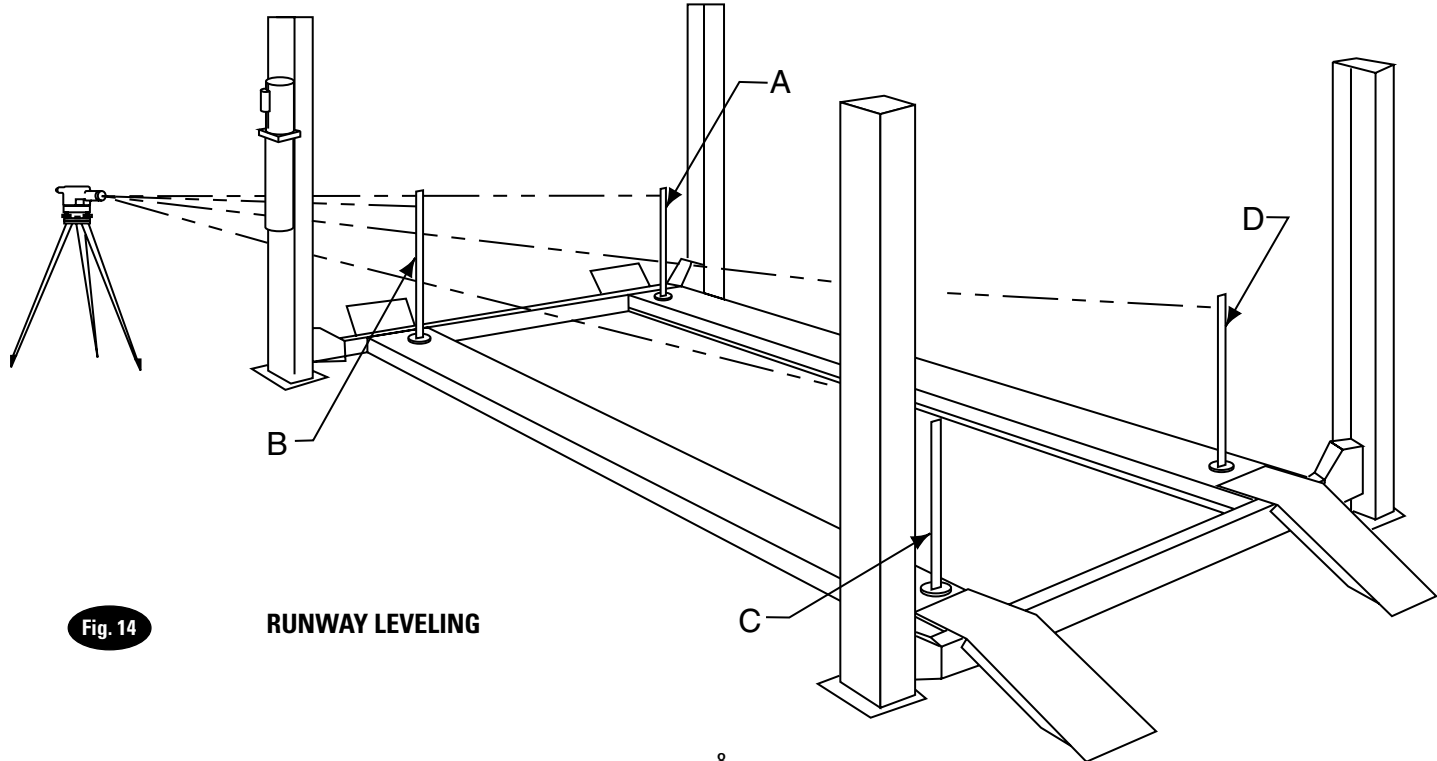

Fig. 14 RUNWAY LEVELING
- C. First place the Level target at the highest corner of the lift. Place it on the runway center line within 6" of yoke tube, whichever one is located over highest point. This will be referred to as target "A" position. Beginning with target "A" position, Fig. 14, sight the Level to the target and mark the number or the graduation on the inch scale of the target that aligns to the crosshairs of the Level, Fig. 15.
- D. Next, move the target and place it on the runway at point "B", Fig. 14. Rotate the Level and focus on the target scale. Adjust the column at "B" using shims under base plate, Fig. 13, until the cross-hairs of Level align to reference mark on the target scale. Repeat for points C and D.